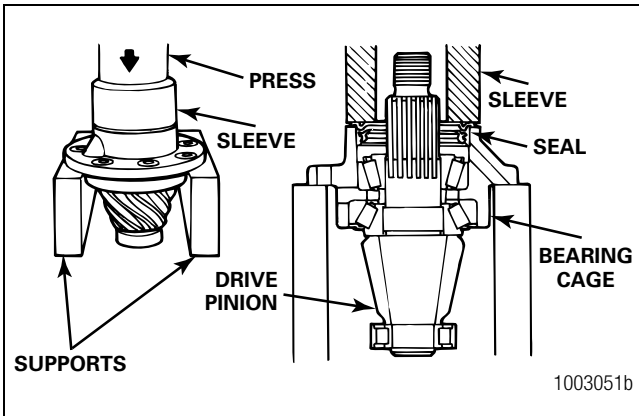

Figure 5.28
- C. Press the seal into the bearing cage. The seal flange must be flat against the top of the bearing cage. Use a sleeve or seal driver of the correct size that fits against the metal seal flange. The diameter of the sleeve or driver must be larger than the flange diameter. Figure 5.28.